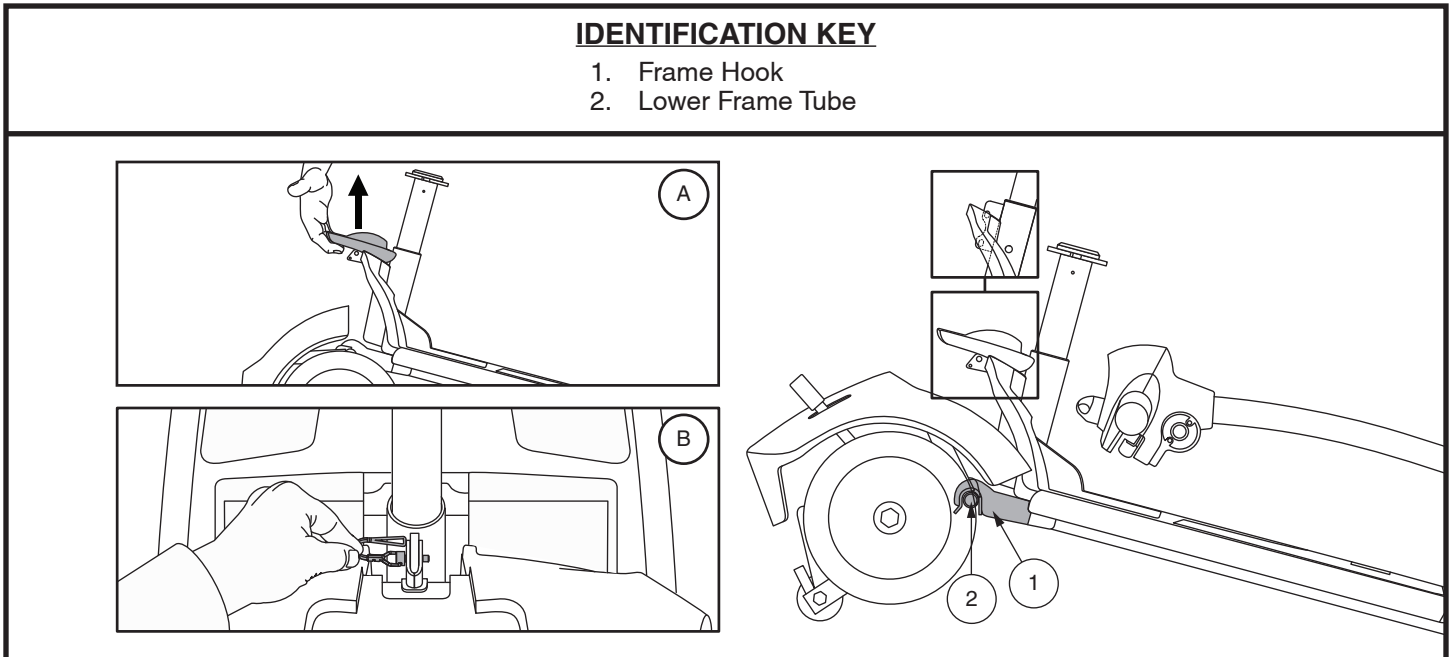

Figure 33. Frame Release Lever (Style A) and Frame Release Lock-up Pin (Style B)
4. Slowly separate the two sections of the Travel Scooter. See figure 33.
NOTE: Before attempting assembly, tilt the rear half of the Travel Scooter slightly back on the anti-tip wheels as shown in figure 33.
1. Use the frame release lever (or the seat post for models 29, 36, 336, 83, and 84 only) to lift the front section as you align the frame hooks of the front section with the lower frame tube of the rear section. See figure 33.
2. Once the frame hooks are over the lower frame tube, lower the front section and pivot the rear section simultaneously. This will engage the frame lock-up automatically for models AAP4, 39, 40, 44, 40LX, 40X, 44X, 40E, 402E, 44E, 442E, 44LX, 49, 50LX, 50LXLIT, 53, 53HD, 54, 54LX, 54LXLIT, 54HD, 66, 67, 73, 74, and Jazzy ZTS. For models 29, 36, 336, 83, and 84, you will also need to reinstall the frame lockup pin to complete the body assembly. See figure 33.